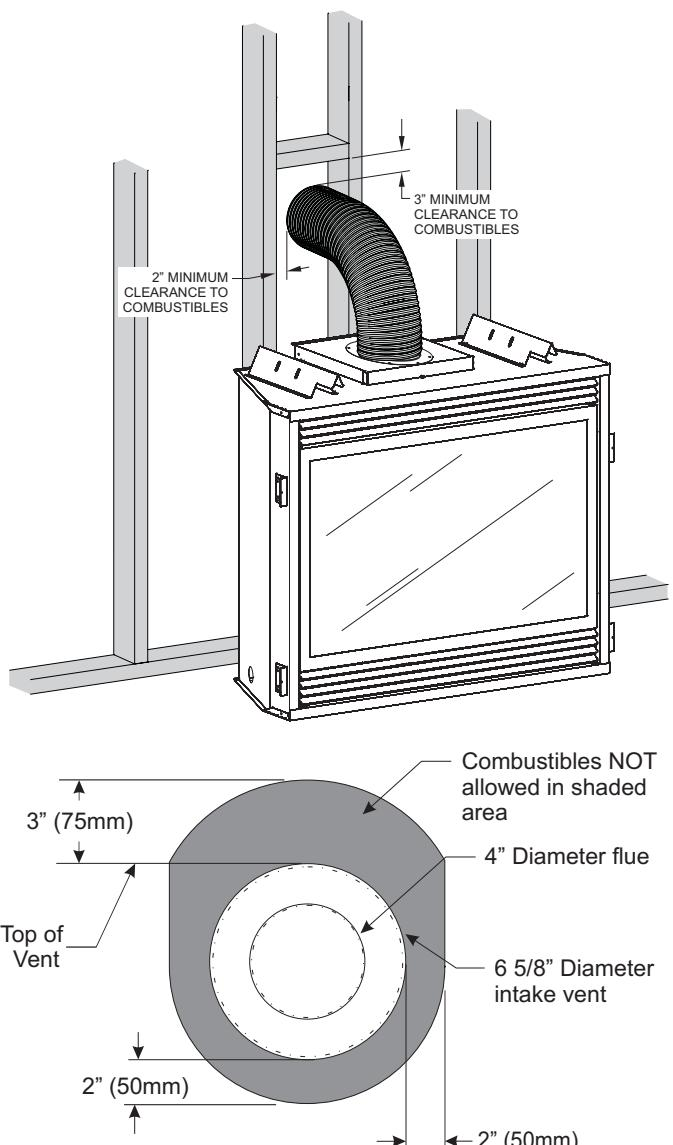

Figure 69
- 4a. Install the Wall Firestop/Thimble to the framed wall assembly using common nails (not supplied) as required through the wall. Refer to the venting charts in the fireplace manual to determine the proper height and size of the vent opening. The minimum framed opening should be 11 inches wide by 11 inches high. The minimum combustible clearance from the horizontal vent is 2 inches from sides and bottom, and 3 inches above the vent pipe. **See Figure 69.**